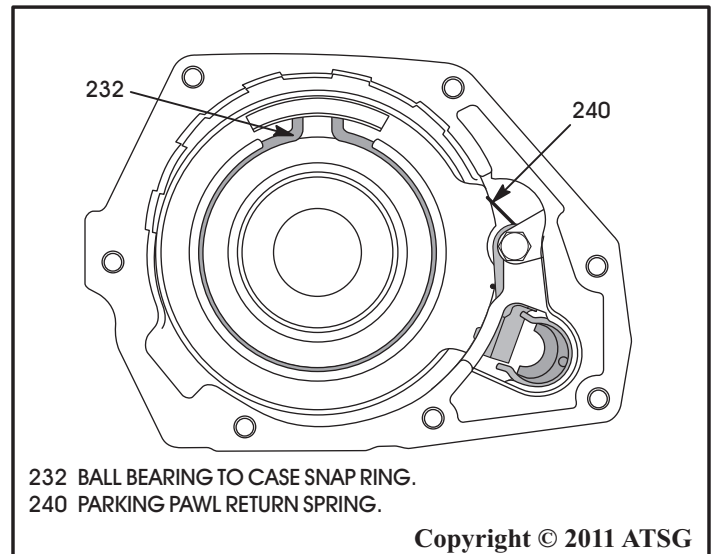

Figure 194
43. Verify that the tab ends of the rear ball bearing locating snap ring extend into the access hole in overdrive housing, as shown in Figure 194.